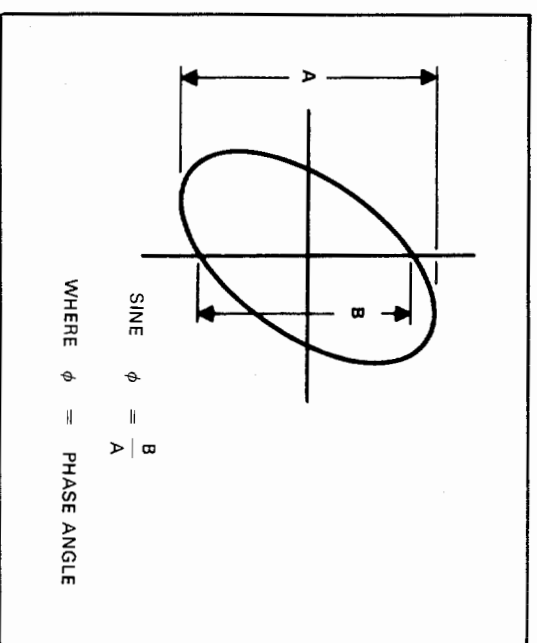

Fig. 21 Phase shift calculation
7. Some typical results are shown in Fig. 20. If the two signals are in phase, the oscilloscope trace is a straight line. If the vertical and horizontal gain are properly adjusted, this line is at 45°. A 90° phase shift produces a circular Lissajous' pattern. Phase shift of less (or more) than 90° produces an elliptical Lissajous' pattern. The amount of phase shift can be calculated by the method shown in Fig. 21.